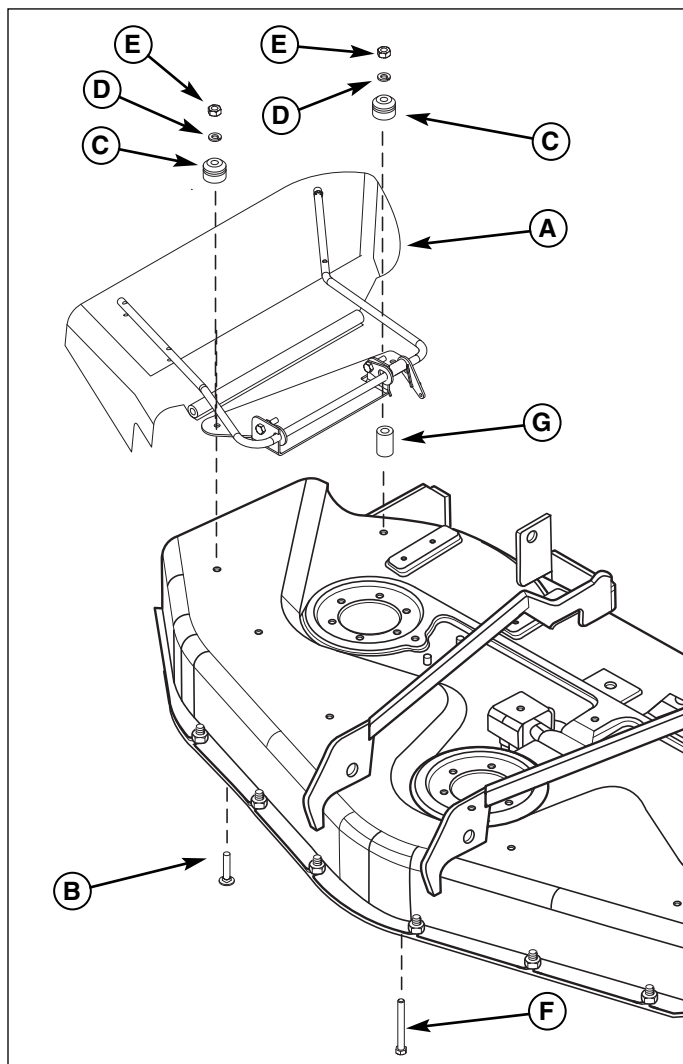

**Figure 2. Install Hook Plate**
2. Install the hook plate (A, Figure 2) below the stone guard (located at the bottom of the discharge opening) using two carriage bolts (B) and flange locknuts (C). Install bolts from the bottom up.
3. Install retainer nut (D) on hook plate.
2. Install the turbo blower assembly (B) over the tapered spacers. Turbo should hook the bottom hook plate.
3. Install one spring clip (C) on tapered spacers at the front and rear of hinge to hold in place.
4. Secure turbo blower on hook plate (A, Figure 2) using plastic knob (D, Figure 4).